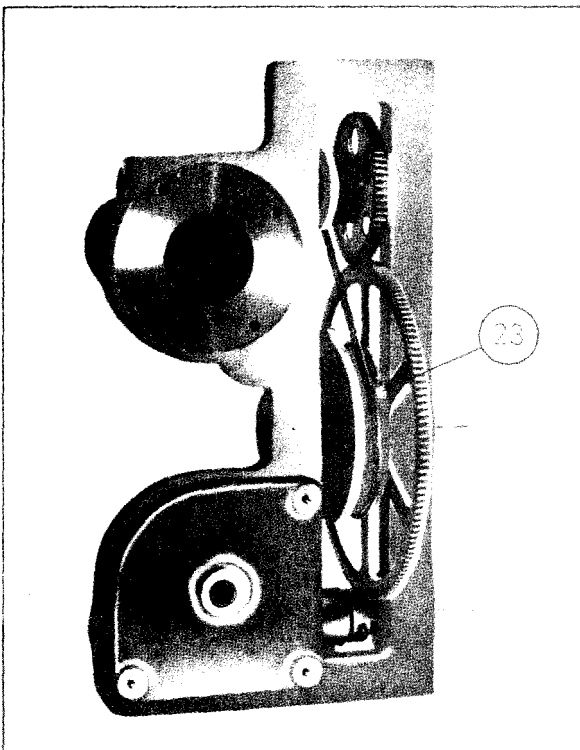

Figure 4-16. Left View of Assembled Drive
With the gears still in the same position, that is with the bottom shaft completely clockwise, fasten one end of the 6 inch spring (24) to the 10 o'clock hole in the hub of large spur gear in a clockwise direction, but instead of winding the spring around the drum, push the spring to the back and make one turn around the hub of the cam. Then fasten the loose end of the spring to the 4-40 capped hole at three o'clock in the hub of the small spur gear. The spring may now be wound on the small drum by turning the lower shaft, and then put in place on the large drum. Figures 4-16 and 4-17 show the spring in place with one end of the spring terminating at three o'clock on the small spur gear hub and with the other end of the spring at 10 o'clock on the large spur gear hub.